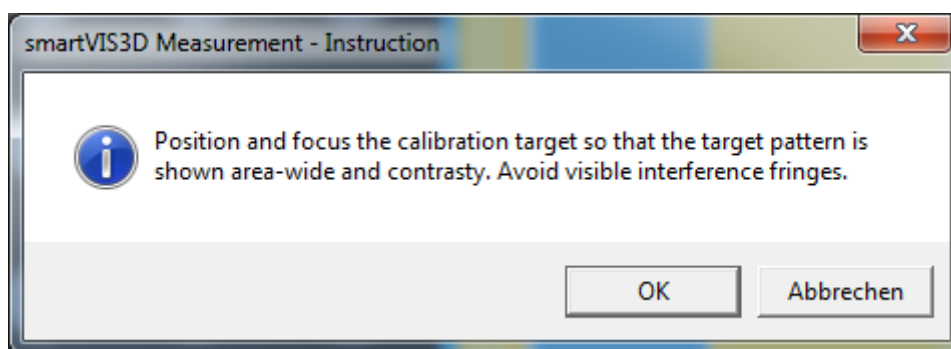

FIGURE 30: THIRD INSTRUCTION DIALOG OF THE CALIBRATION PROCEDURE
8. In the third instruction dialog, see Figure 30, you will be asked to position the calibration target and to adjust the height of the measurement stage using the z-drive hand wheel such that: